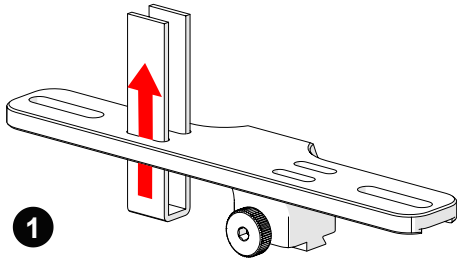

Fig. 83 - Insert velcro straps
1. Slide the velcro strap through the bracket's holes (*Fig. 83*).